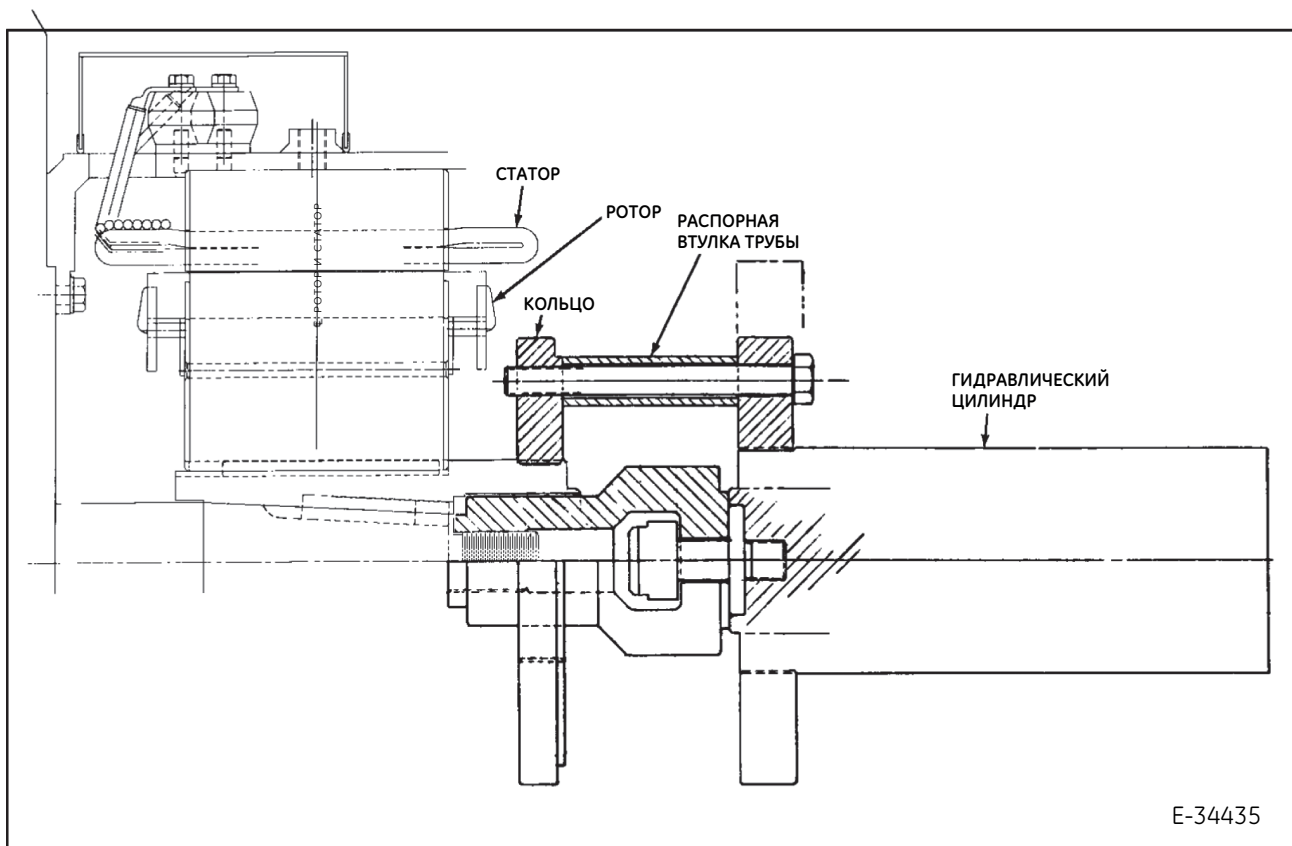

Figure 6. Hydraulically Seat Rotor on Air Compressor Shaft
17. Assemble hydraulic cylinder fixture and pipe spacers to rotor ring, tighten mounting bolts with an impact wrench (Figure 6). Pump pressure to 7000 psi (492,26 Kg/cm²) on the ASSEMBLY gage then release.